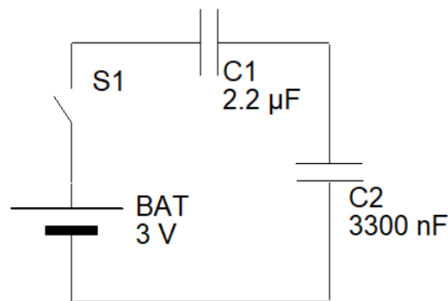

Figure 6: Circuit 5
b) Find the total capacitance of the circuit shown in Figure 6 below. Show all your working.